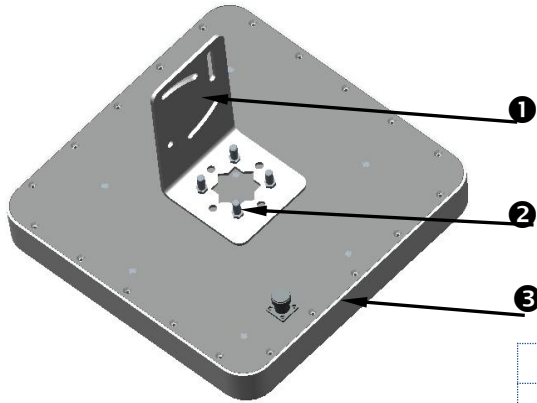

Figure 3. Horizontal mounting step 1
①	L board (Bracket)
②	M6 screw, elastic washer and plain washer
③	FSC-RA01DL antenna
Step 1: Use M6 screw, elastic washer and plain washer, to fix the L board on the antenna, please see Figure 3.